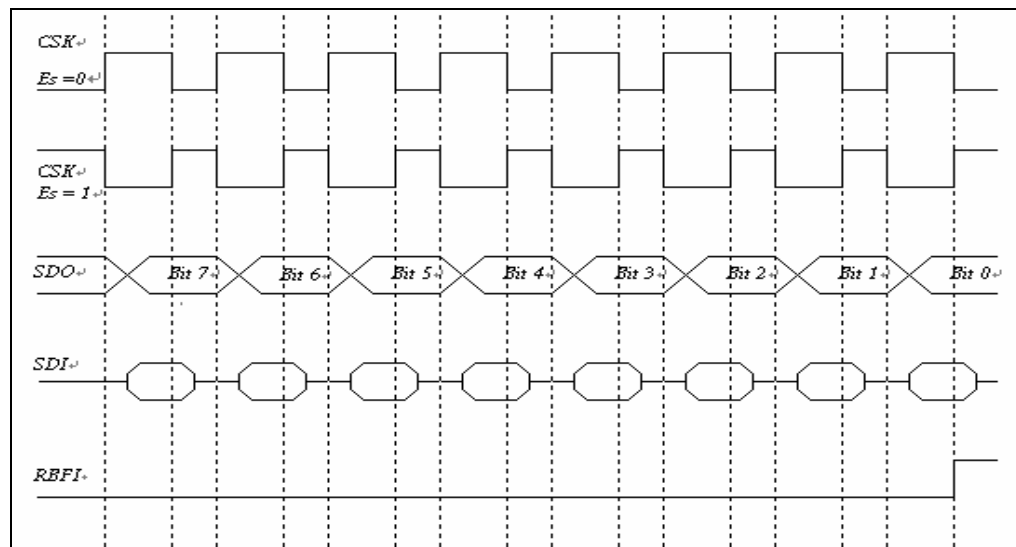
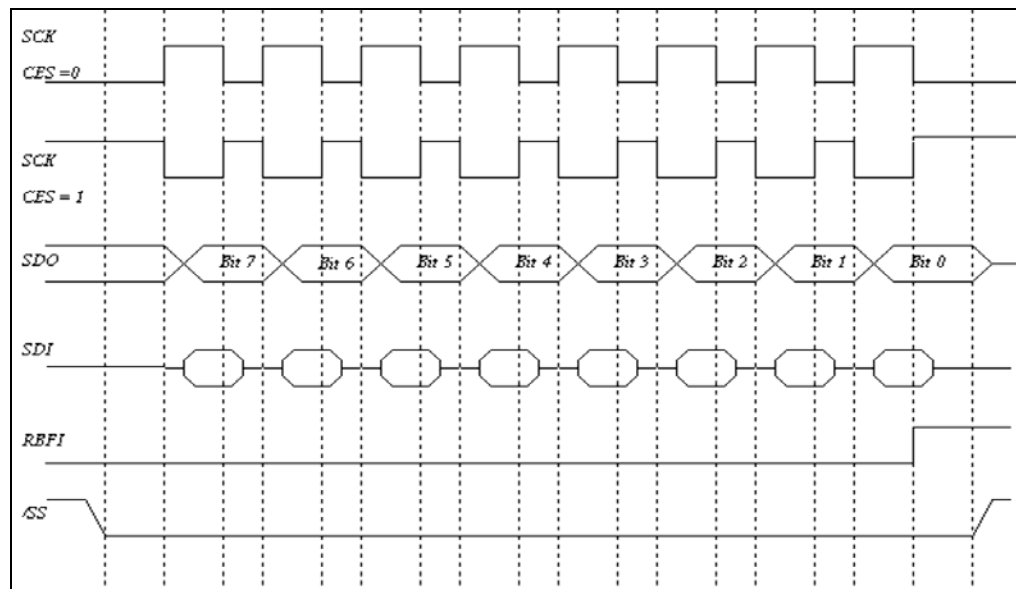

Figure 6-32 SPI Mode with /SS Disable
Figure 6-33 SPI Mode with /SS Enable
- Timing is shown in Figure 6-32 and 6-33
- Timing is show in Figure 6-32 and 6-33
The SCK edge is selected by programming bit CES. The waveform shown in Figure 6-32 is applicable regardless whether the EM78R652 is in master or slave mode, with /SS disabled. However, the waveform in Figure 6-33 can only be implemented in slave mode, with /SS enabled.